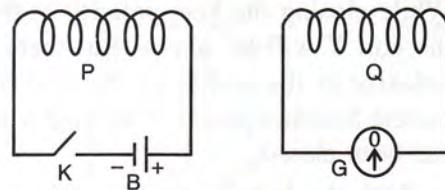

Fig. 10.39
- 2. Two coils P and Q are placed as shown in Fig. 10.39. The coil A is connected to a battery B and a key K, while the coil Q is connected to a centre zero galvanometer G.